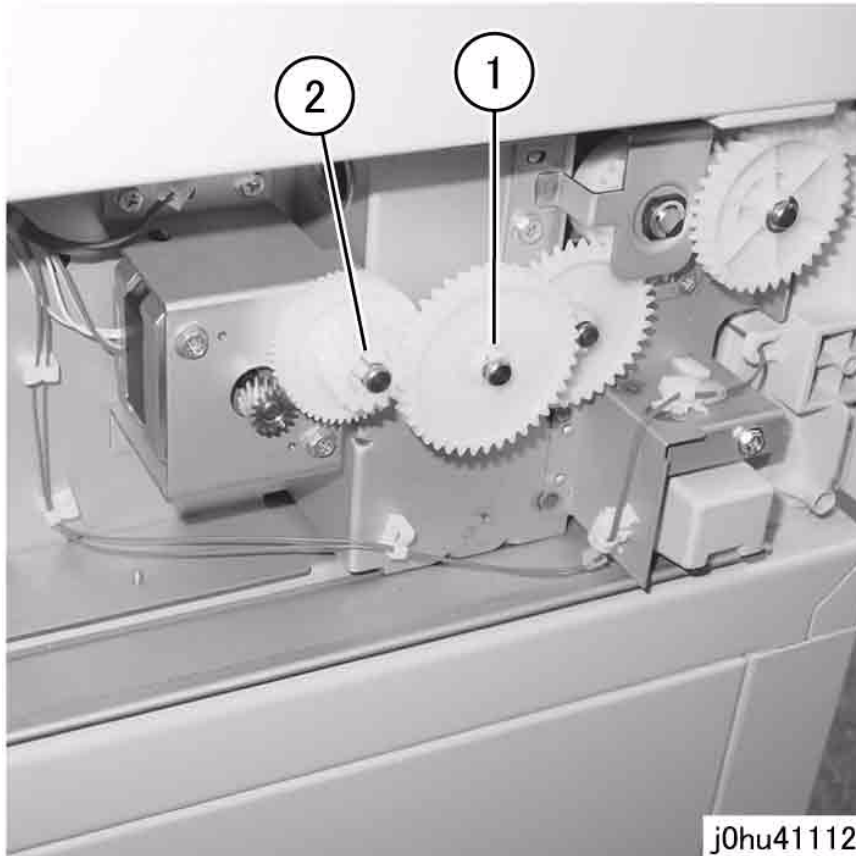

Figure 1 Remove Gears
2. Remove the gears (Figure 1).